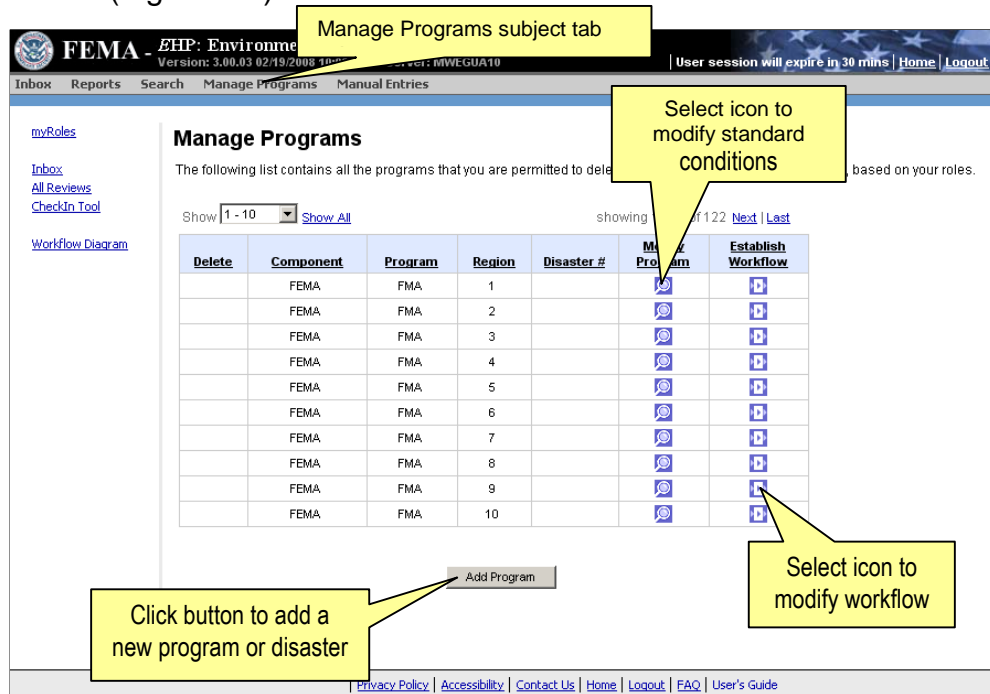

Figure 5.5: Managing Programs
To perform these administrative functions, select the **Manage Programs** tab on the top navigation toolbar (Figure 5.5).
- From the *Manage Programs* screen, select the **Modify Program** icon next to the desired program name or disaster number (Figure 5.5).
- From the *Manage Programs* screen, select the  icon in the Establish Workflow column next to the desired program name or disaster number (Figure 5.5).
It is important to note that for disaster-based program, i.e. Public Assistance, the Workflow and standard conditions may be established program-wide within a region, or established separately for each disaster event. To establish Workflow and set standard conditions for a particular disaster event, locate the disaster number on the Manage Programs screen. If the desired disaster number is not listed, it must be added using the Add Program button (Figure 5.5 and 5.8).